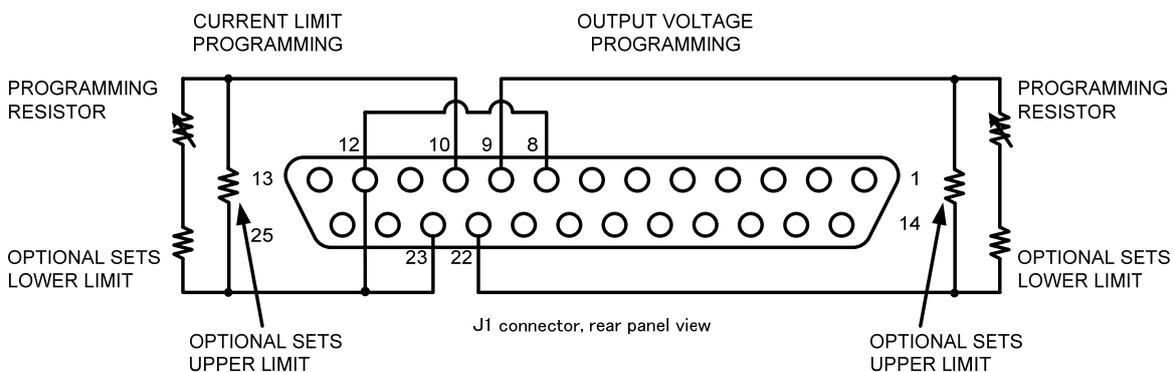

Fig.5-2: Remote resistive programming
6. Connect the programming resistors to the mating plug of J1-22(VPGM_RTN), J1-23(IPGM_RTN) as shown in Fig.5-2.